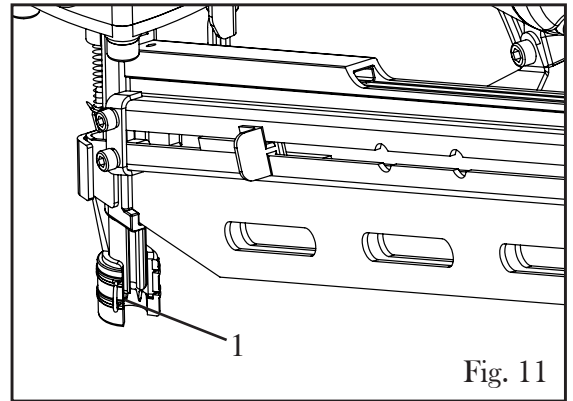

Fig. 11
## CLEARING JAMMED FASTENERS (Fig. 11 & 12)
3. Use a pair of needle nose pliers or a flat head screwdriver to remove the bent fastener from the back opening of the nosepiece (Fig. 11 - 1). If the fastener cannot be removed directly, refer to the next step to remove the magazine.